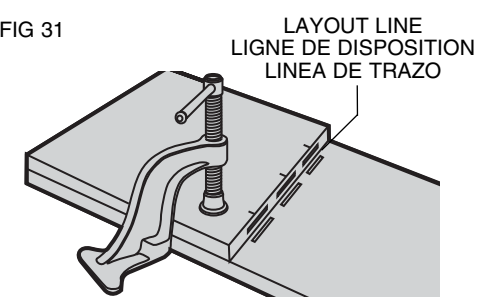

FIG 32
- Using the bottom registration surface, align the tool with the biscuit location marks and make a vertical and a horizontal plunge cut for each biscuit location as shown in Figure 32.